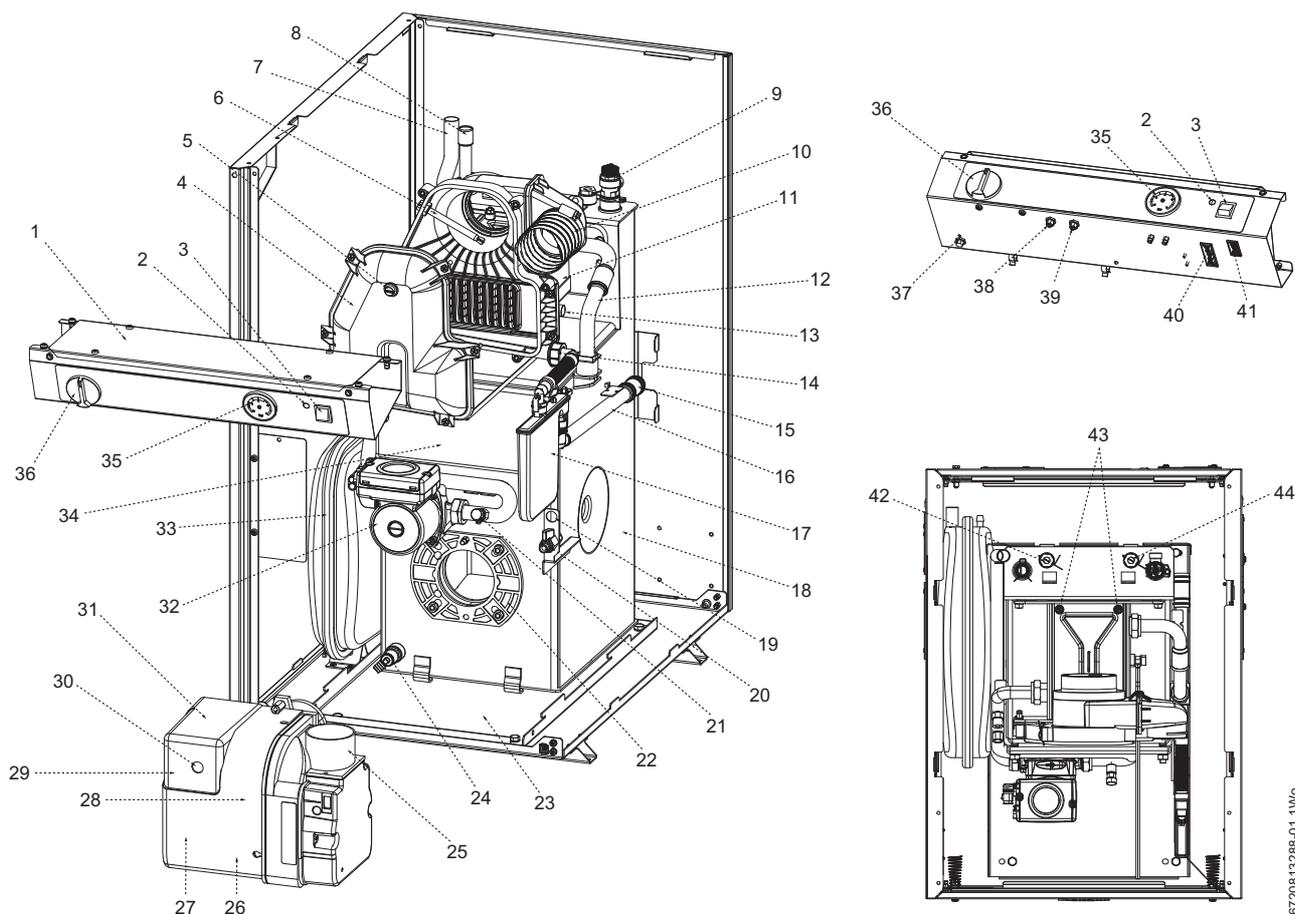

Fig. 3 Exploded system appliance view
**Figure 3 does not include the top, front, right hand side panel and cross brace.**